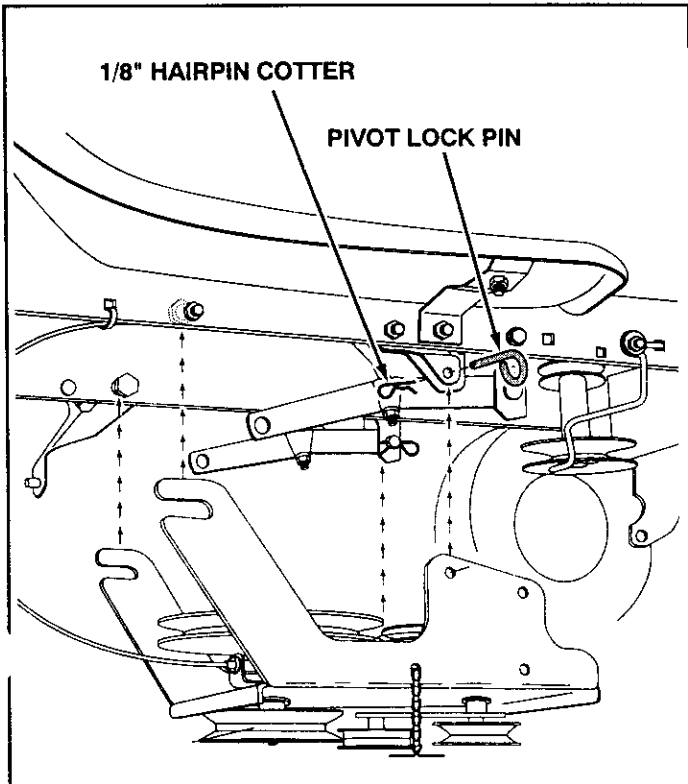

FIGURE 17
- Attach the clutch/idler assembly to the tractor frame by sliding the notched arms at the rear of the assembly onto the two shoulder bolts assembled to the inside of the tractor frame. Lift the front of the assembly, fitting the sides into the R.H. and L.H. hanger brackets. Attach the assembly to the brackets using two pivot lock pins and 1/8" hairpin cotters. See figure 17.